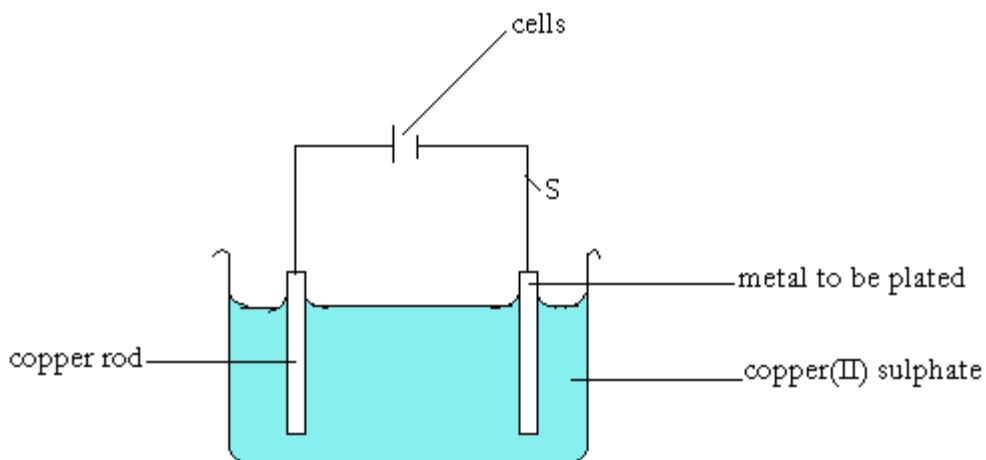

Figure 16.6: Electrolysis of copper(II) sulphate solution using copper electrodes
1. Put about 200 cm^3 of 1M copper(II) sulphate in a beaker
2. Arrange the apparatus as shown in Figure 16.6.